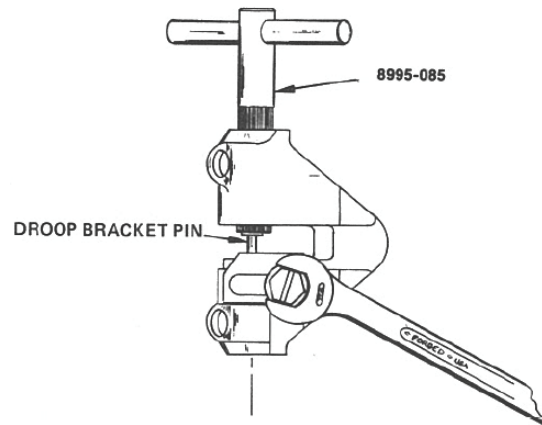

Figure 3-27. Setting Zero Droop
22. Align droop bracket (61) to zero droop. Use tool 8995-085 as shown in Figure 3-27 and align droop bracket pin with end of tool. Tighten screw (64).